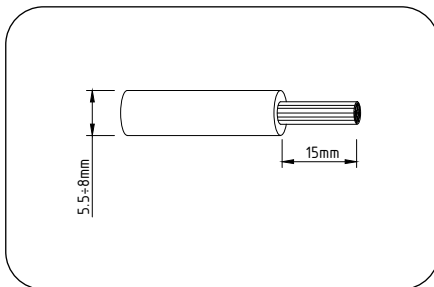

Figura 13
1. Strip 15 mm off the conductor using a suitable stripping tool for this (Figura 13).